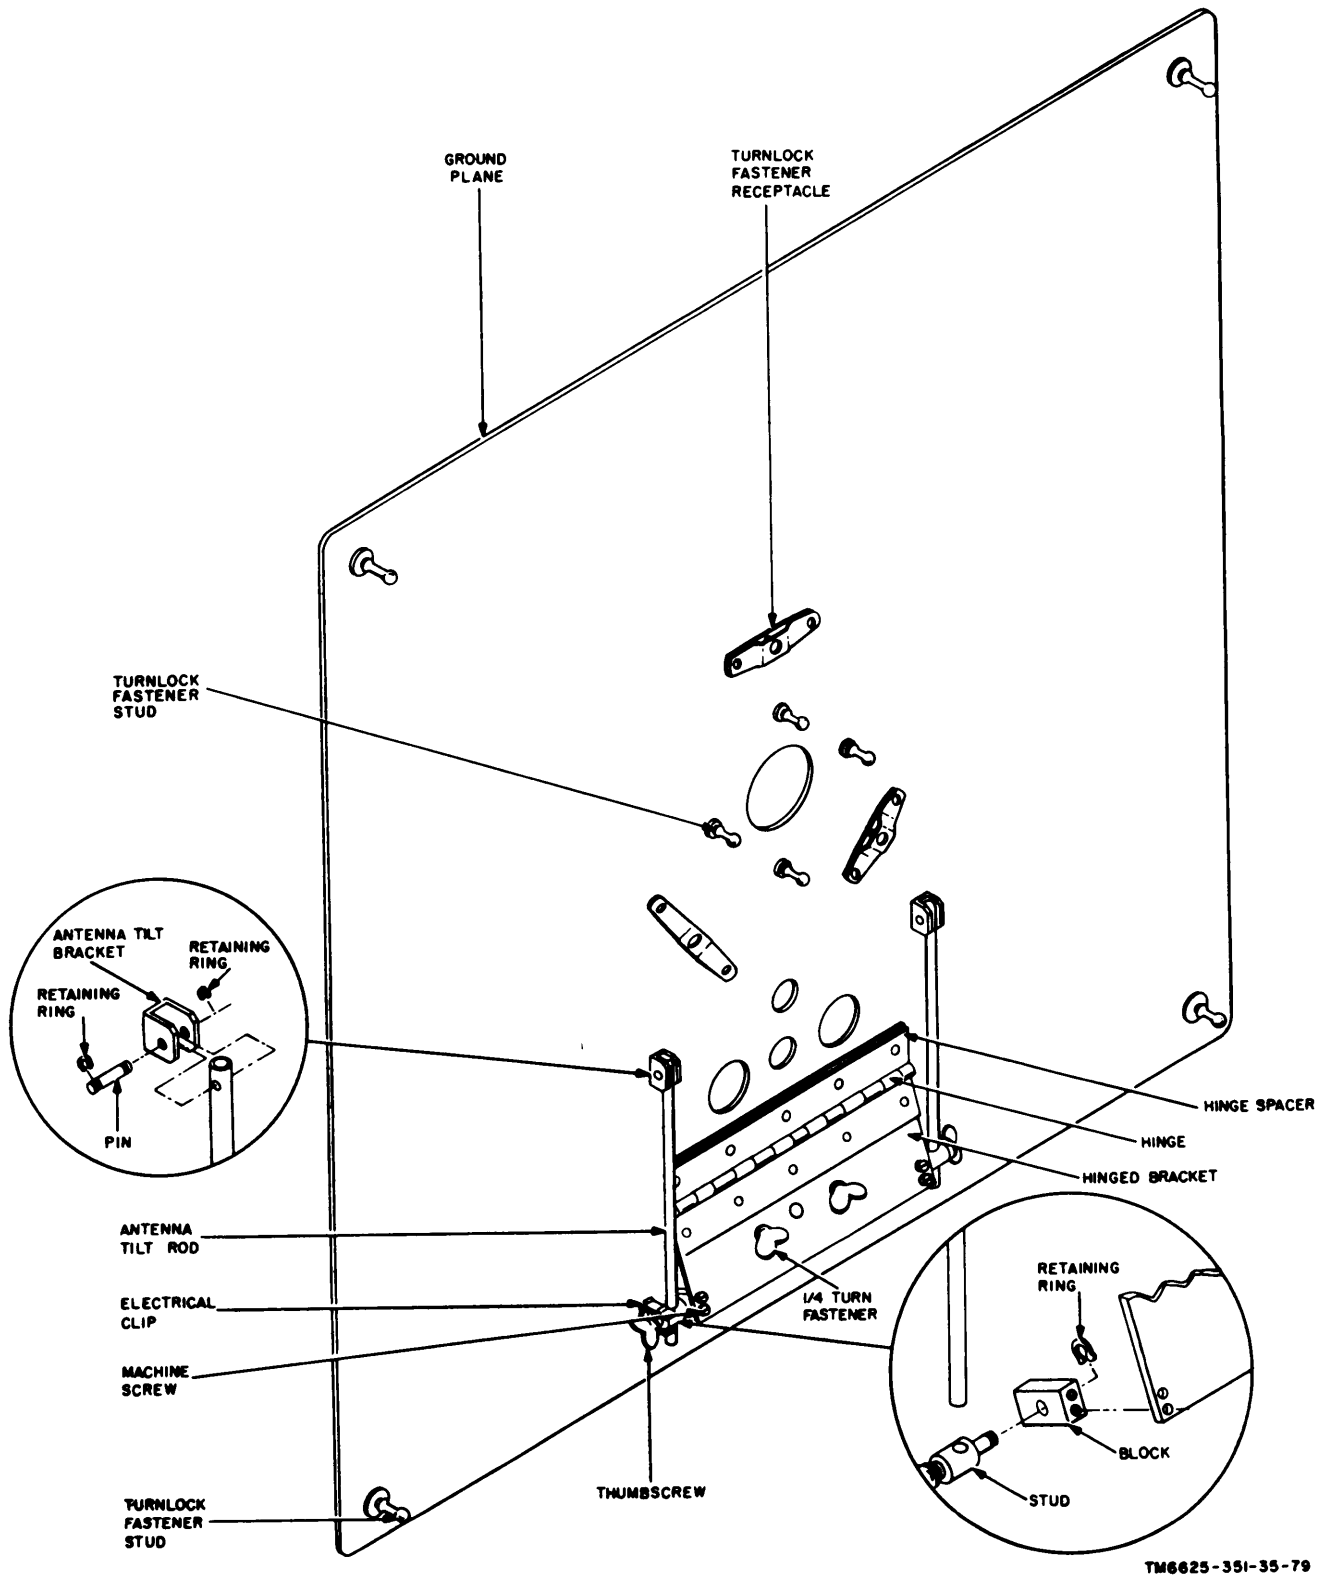

Figure 82. Reflector, Antenna AT-1027/URM-86, parts location diagram.
- (1) In mounting the ground plane (fig. 82) on the antenna tripod, check for secure mechanical fit. Insert the protruding post at the tip of the tripod mast through the hole provided on the ground plane hinged bracket; then secure the ground plane by rotating the two 1/4-turn fasteners on the hinged bracket into their mating spring receptacles, provided on the tripod plate. If the thumbscrews, one each located at the ends of the antenna tilt rods (fig. 82), are broken or the threads are frozen, refer to the insert view in the lower right corner of this illustration for disassembly and replacement procedures. If the ground plane cannot be tilted from its horizontal position on the tripod, suspect trouble within the antenna tilt bracket and refer to the insert view at the left center area of the illustration for disassembly and replacement procedures.
Note: The three turnlock fastener receptacles at the center of the ground plane are not used with Coupler, Antenna CU-890/URM-85; they are provided for use with the di scone (broadband) antenna. Also, the the four turnlock fastener studs (fig. 82) l o c a t e d one each at the corners of the ground plane serve no mounting function; they are provided for secure] y storing the ground plane within Case, Radio Interference Measuring Set Group CY-3094/URM-85.